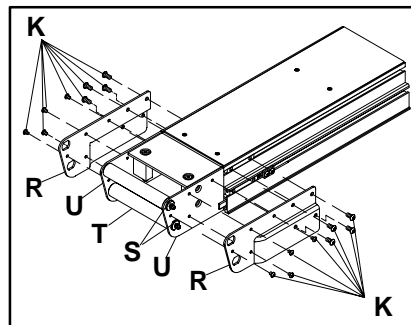

Figure 10
2. Remove the tail cover plate screws (K of Figure 10) and tail cover plates (R) on both sides of the conveyor.